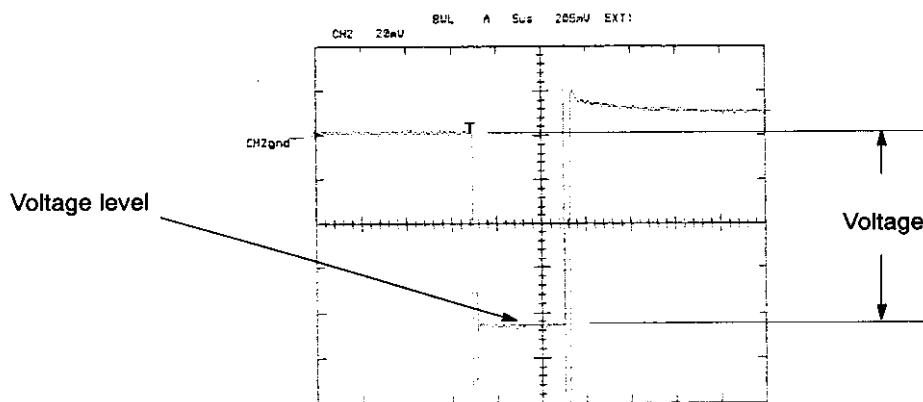

Figure 45. Sever Voltage Measurement
- k. Change the oscilloscope horizontal time to display a single waveform (refer to Figure 45).